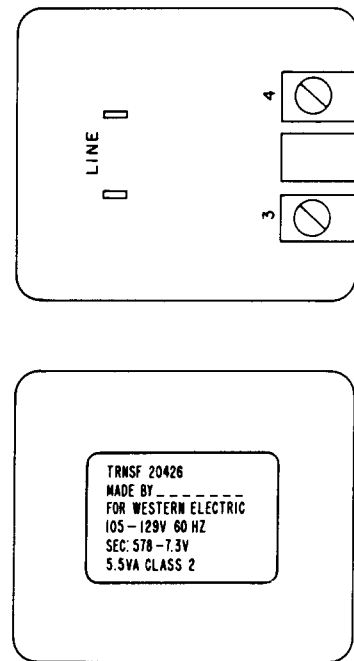

Fig. 12—KS-20426L3 (MD) Transformer Not Manufactured by AULT, INC.
5. KS-20426L3 (MD) (FIG. 12) TRANSFORMER
5.01 The KS-20426L3 transformer (Fig. 12) (not manufactured by AULT, INC.) is intended for use in light systems and is mounted in a 2-wire receptacle. It will power five dial light telephone sets.